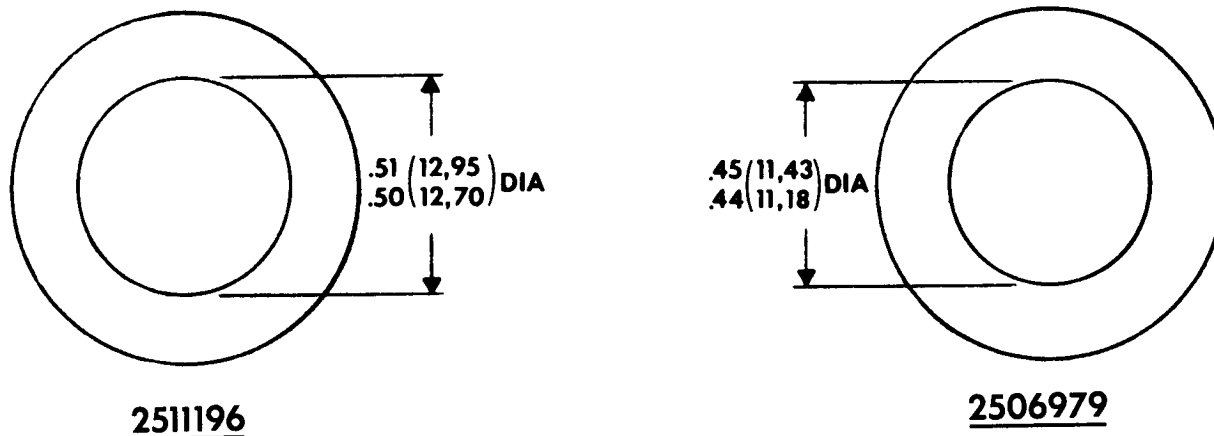

Figure 1.
*NOTE: The 2506979 Gasket and the 2511196 Gasket are made from the same material and have the same outside diameter but may be identified by their inside diameter as illustrated in Figure 1.